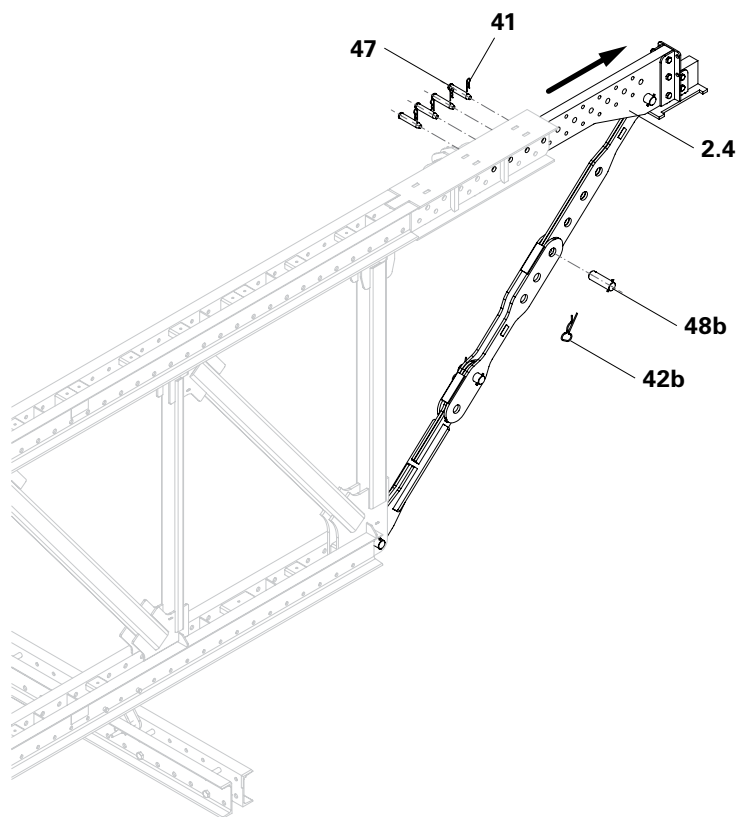

Fig. A1.13
5. Remove cotter pin (41) and pull out fitting pin (47). (Fig. A1.13)
7. Insert fitting pin (47) and secure with cotter pin (41).